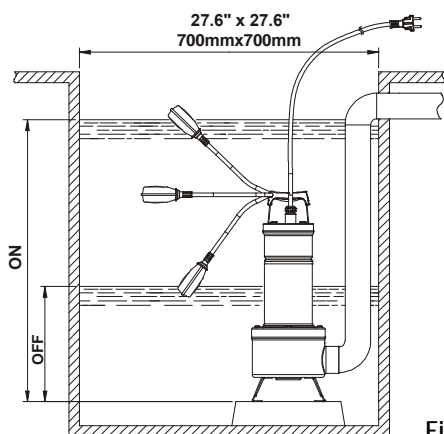

Fig.1
- 4.1 If the bottom of the well or borehole in which the pump is to operate is particularly dirty, it is advisable to provide a support for the pump to sit on so as to avoid clogging of the intake grid (Fig.1).
- 4.4 On the version provided with a float switch, ensure that the float can move freely (SEE THE PARAGRAPH ON ADJUSTING THE FLOAT SWITCH). Ensure that the **minimum dimensions** of the borehole are as in Fig.1. The dimensions of the borehole must also be calculated with relation to the quantity of water arriving and to the pump flow rate so as not to subject the motor to excessive starting operations.